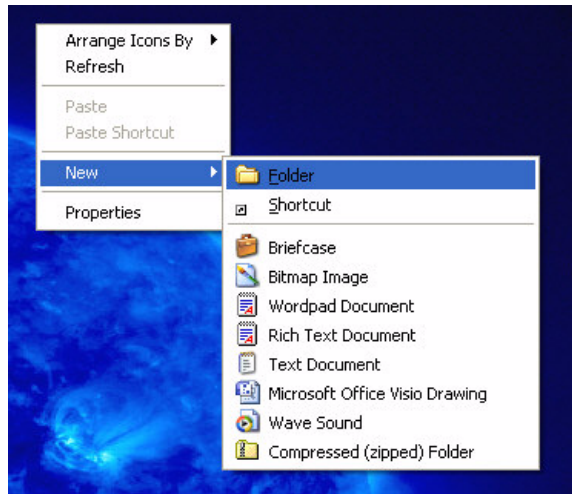

Figure D-5 Right-click on Desktop, Select New > Folder
1. Create a local folder on the Review Station for exported data. The new folder can be created in any available path on the hard disk drive. In the example below, the new folder was created by right-clicking on the Windows desktop, and then selecting **New > Folder** (Figure D-5).